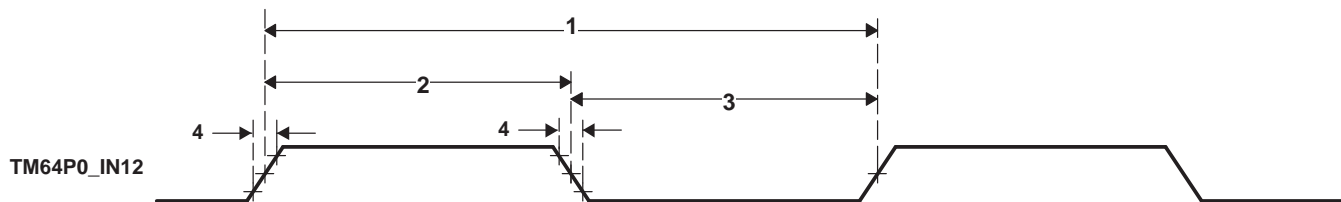

Figure 6-80. Timer Timing
Table 6-130. Timing Requirements for Timer Input(1) (2) (see Figure 6-80)